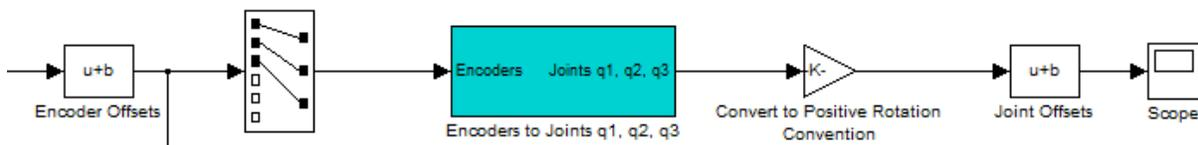

Figure 3.5: Joint orientations
6. Insert a **Bias** block between the **Gain** block and the **Scope**. Enter the biases you found in Question 3.5 as a 1×3 vector. Your angle calculation should look as shown in Figure 3.5. Restart your model.